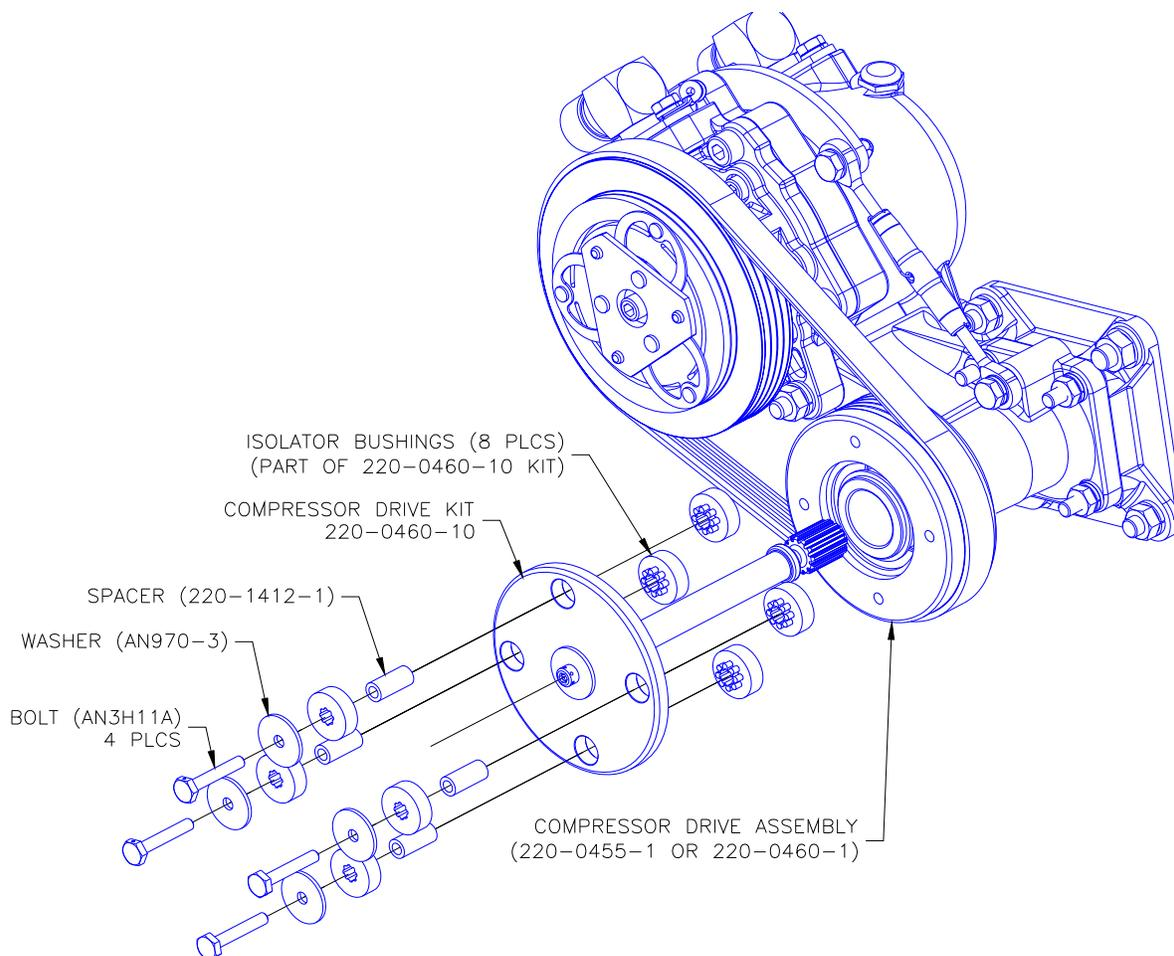

Figure 1
6. Install the compressor drive kit (220-0460-10) as shown in Figure 1.